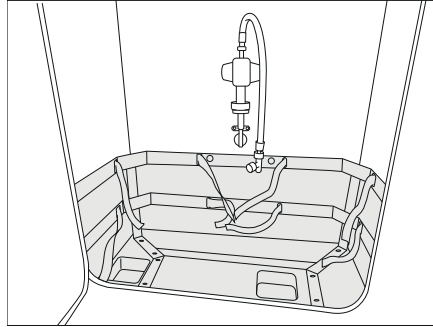
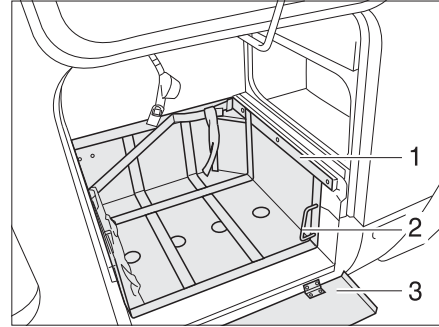

Fig. 204 Gas bottle compartment
Fig. 205 Gas bottle compartment with extendable slide
- If there is a guard plate (Fig. 205,3), fold it down.
- Unlock the slide (Fig. 205,1) using the handle (Fig. 205,2).
- Pull out the slide (Fig. 205,3) as far as possible.
- Turn back the handle (Fig. 205,2).
- Unlock the slide (Fig. 205,3) using the handle (Fig. 205,2).
- Push in the slide (Fig. 205,3) as far as possible, and turn back the handle (Fig. 204,2).
- If there is a guard plate (Fig. 205,1), fold it up.